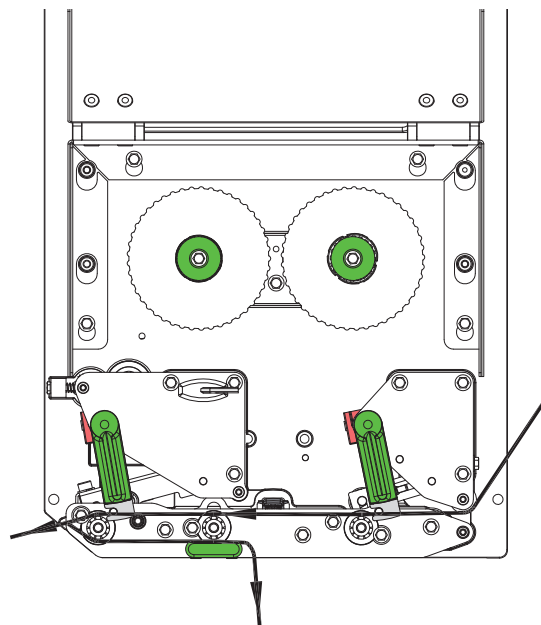

Fig. 8 Label feed path
2. Turn levers (3, 10) counterclockwise to open the printhead (1) and the backfeed system (9).
3. Move guide rings (4) outwards until the media can pass between the rings and the mounting plate.
4. Guide label strip (8) to the peel-off edge (2) as shown in the figure 8 and move to the mounting plate until it stops. The printing side of the label must be shown from above.
5. For peel-off mode forward the label strip over the peel-off edge, that the strip reaches back to the locking system (5). Remove the labels from the overhanging strip.
6. Turn levers (3, 10) clockwise to close the printhead (1) and the backfeed system (9).
7. Slide guide rings (4) against the label strip.